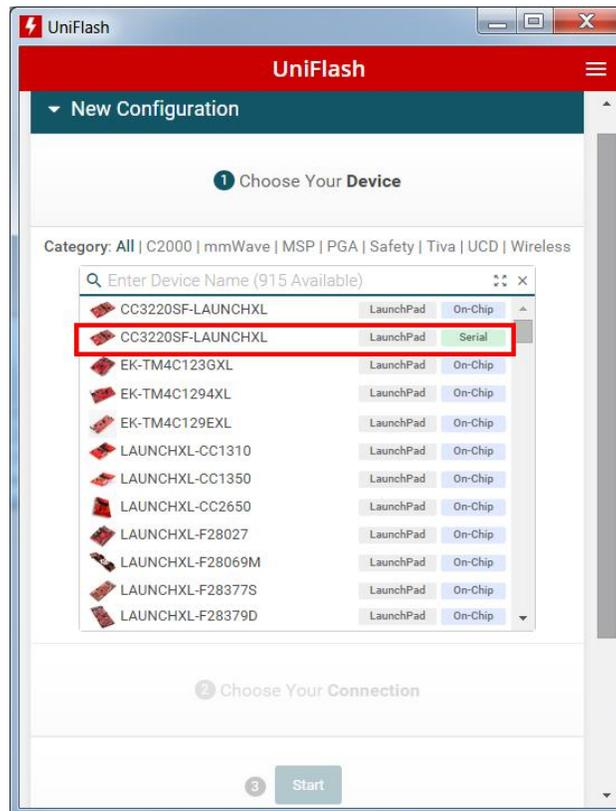

图 8. Choose Device: CC3220SF
2. On the *Choose your Device* section select *CC3220SF-LAUNCHXL*, and make sure to select the *Serial* option and not *On-Chip* as shown in 图 8. Click on the *Start Image Creator* button.